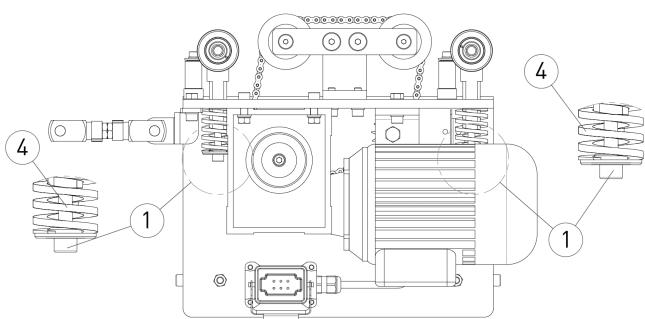
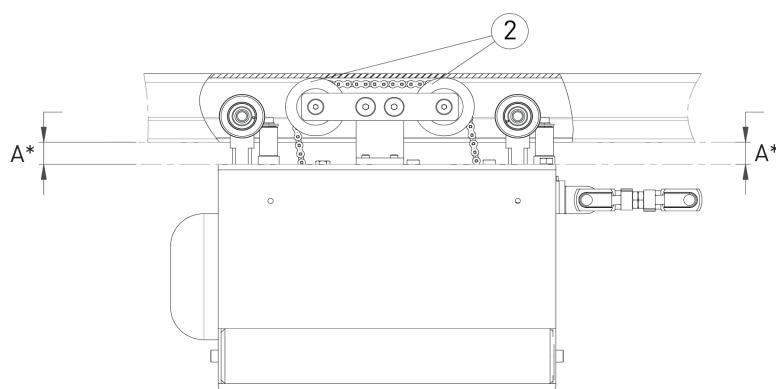

FIGURE 1
FIGURE 7
STEP 3: Unscrew (do not remove) the socket screws (f/n 1) that hold the adjustable wheel trolleys assembly. See Figure 1
(Figure 1, f/n 1) against the springs (Figure 1, f/n 4), so that the friction wheels start to contact the upper face of the track profile. See Figure 7.